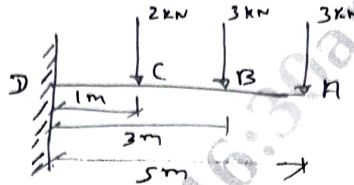

Fig.Q4(a)
- 4 a. Draw SFD and BMD for the beam shown in Fig.Q4(a).